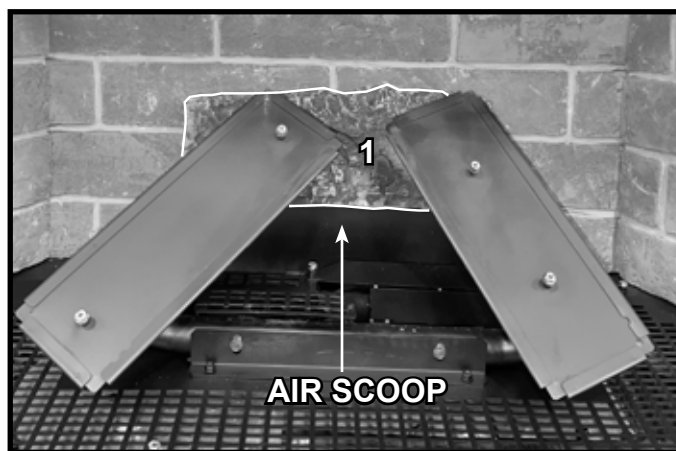

Figure 3 Log #1 Installed
**LOG #1:** Center Log #1 left to right on the air scoop and move it back until it contacts the back wall. See Figure 3.